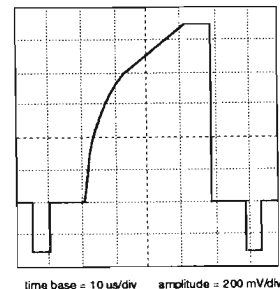

Fig. 3 : max. video level
- measure VIBS WK3:MP7 and adjust the top of the video to 1100 mV with WK5:P1 see fig. 3